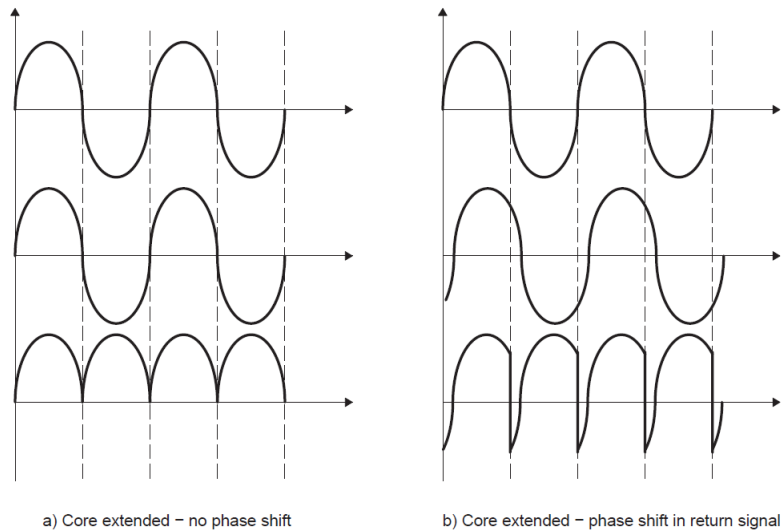

Figure 2: Demodulation of the return signal (Secondary coil)
[2] Phase Trimmer: The demodulation process is done by multiplying the return signal (secondary Coil signal) with the reference signal (signal used for the primary coil). If both signals are in phase, the result is of the form  $\sin^2\theta$ . See figure 2. Then using a LPF, the signal can be smoothed and we can get a voltage linearly proportional to the position of the core.
If the signals are not in phase, the multiplication process yields sum and difference terms which in combination give under shoots in the rectified signal. See figure 2. So by turning the "Phase trimmers" we can shift the phase of the demodulation signal. And this trimmers are reachable from the front side of the rack. See figure 1.
4. With the core at the extreme final position we need to adjust the phase trimmer in order to get the return signal and the reference signal in phase. In principle we should compare this two signals with an Oscilloscope but it is more simple to look at the value of the demodulated signal in the digital model (MEDM screens) and adjust the trimmer until we get the maximum value. This is indeed setting the reference signal and the return signal (secondary coil signal) in phase. See figure 2.